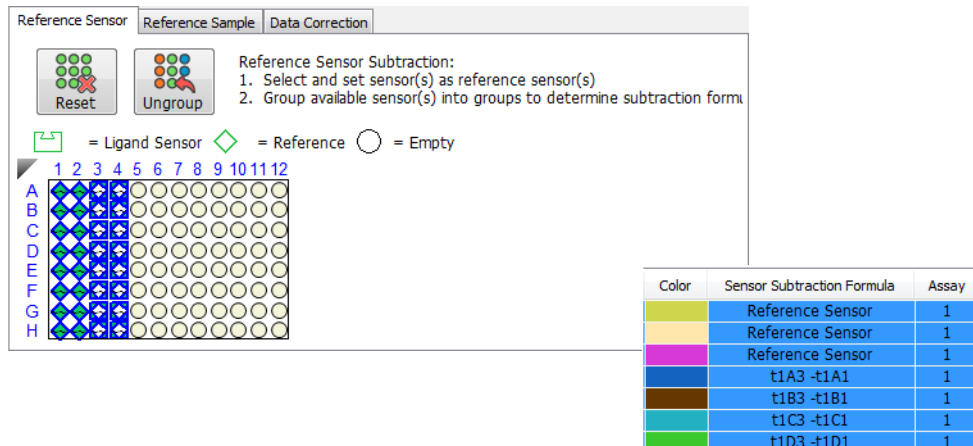

Figure 4-24: Group Reference By Pattern Right and Full Traces Table Subtraction Formula
- **By Pattern Right** - Groups reference and ligand biosensors in a pattern and assumes that the reference biosensors are to the left of the ligand sensors. This option is typically used when you're running all the reference sensors first and then all the ligand sensors as shown in Figure 4-24 where the experiment was run in 16-channel mode. For example, if your ligand biosensors are in columns 3 and 4, and the reference biosensors are in columns 1 and 2, this subtracts A1 from A3, A2 from A4, and so on.